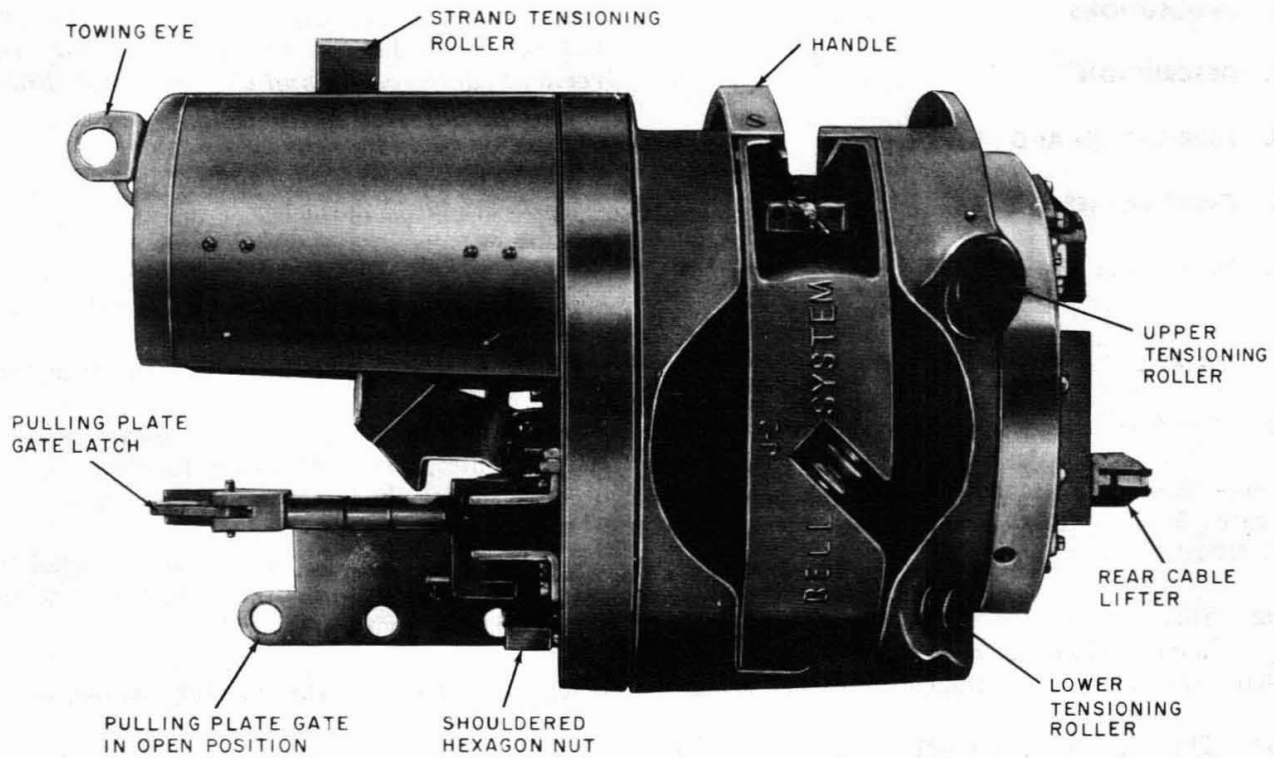

Fig. 1—Right Side of Lasher
**3.01** The lasher consists essentially of a rotatable drum supported on a carriage which also provides the mounting for a driving mechanism, cable and strand rollers, front and rear gates, pulling eyes, and a ratchet-type brake. The lasher weighs approximately 38 pounds without lashing wire (Fig. 1 through 4).
it is threaded around the tensioning rollers (Fig. 1 and 2).
**3.06** The pulling plate gate (Fig. 1) cannot be adjusted vertically. It is opened by pressing the latch lever and allowing the spring-loaded gate to swing open. When the pulling plate gate is in the open position, the rotating drum locks automatically when its cable slot registers with the cable slot in
**3.10** Towing eyes (Fig. 1) are provided on the front of the lasher. When the towing line is attached to these eyes, the additional downward force improves the traction between the strand drive wheels and the strand. This additional traction is necessary when the lasher is operated with the strand tensioning mechanism removed.
**3.14** The lasher is equipped with shouldered hexagon nuts, as illustrated in Fig. 1 and 3, to facilitate the attachment or removal of the C lasher guard. Lashers in the field that do not have the shouldered hexagon nuts may be modified by removing the two existing nuts and installing the two shouldered hexagon nuts furnished as loose parts with the C lasher guard. Each shouldered nut is 1 inch long.
4.04 The pulling plate shall swing freely on its hinge. See Fig. 1.